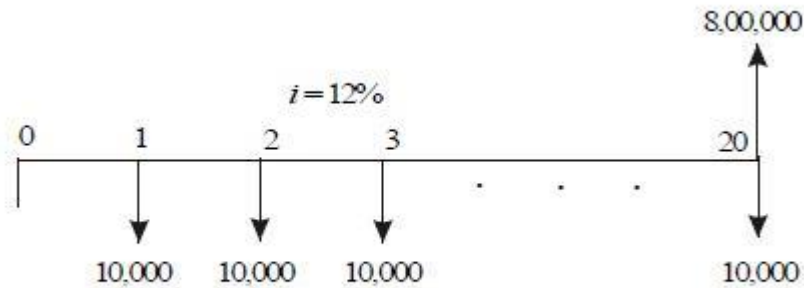

Fig. 4.13 Cash flow diagram for Novel Investment Ltd.
**Solution** *Novel Investment Ltd's plan.* The cash flow diagram of Novel Investment Ltd's plan is shown in Fig. 4.13.